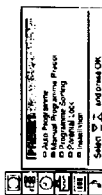

Fig. 6
- 1 Select the symbol  for "Preset" with $\Delta+$ or $\nabla-$ and press OK. The PRESET menu appears. (See Fig. 6.)